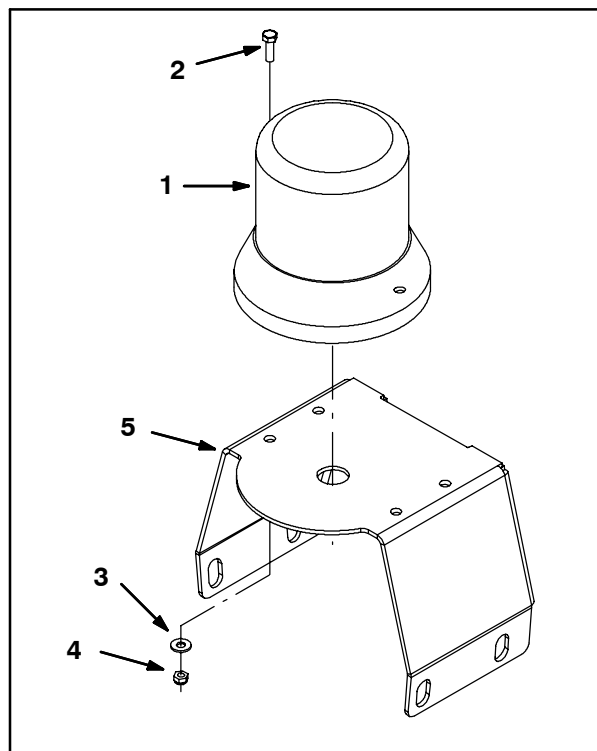

FIG. 1
1. Route the wires from the lamp (1) down through the hole in the light support bracket (5) and use a hex screw (2), flat washer (3), and hex nut (4) to install the lamp onto the light support bracket. Refer to Fig. 1.